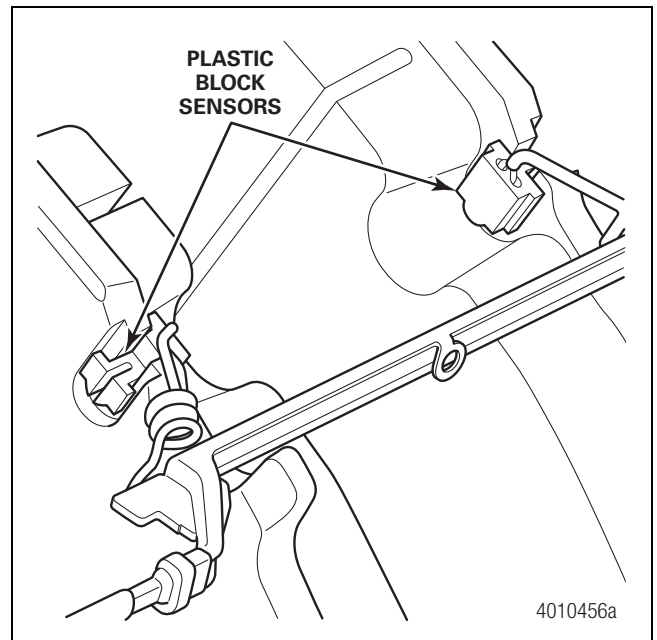

Figure 4.23
- Ensure the PWWI wiring is routed over the pad backplate, away from the rotor. Figure 4.23.
- Install the plastic blocks of the PWWI into the pads. Do not use excessive force, but ensure they are pushed to the bottom of the slot. Figure 4.23.